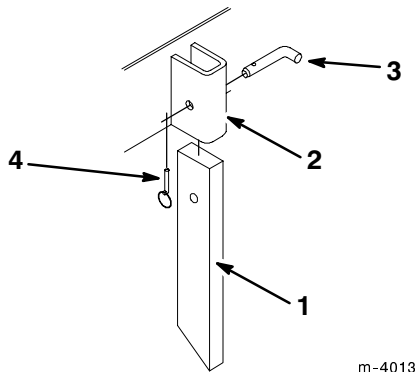

Figure 1
4. Remove a tooth from the storage pin on the side of the attachment and slide it into a tooth bracket from the bottom (Fig. 1). The tooth should be pointing toward the rear.
5. Secure the tooth with a pin and click pin, and close the click pin (Fig. 1).